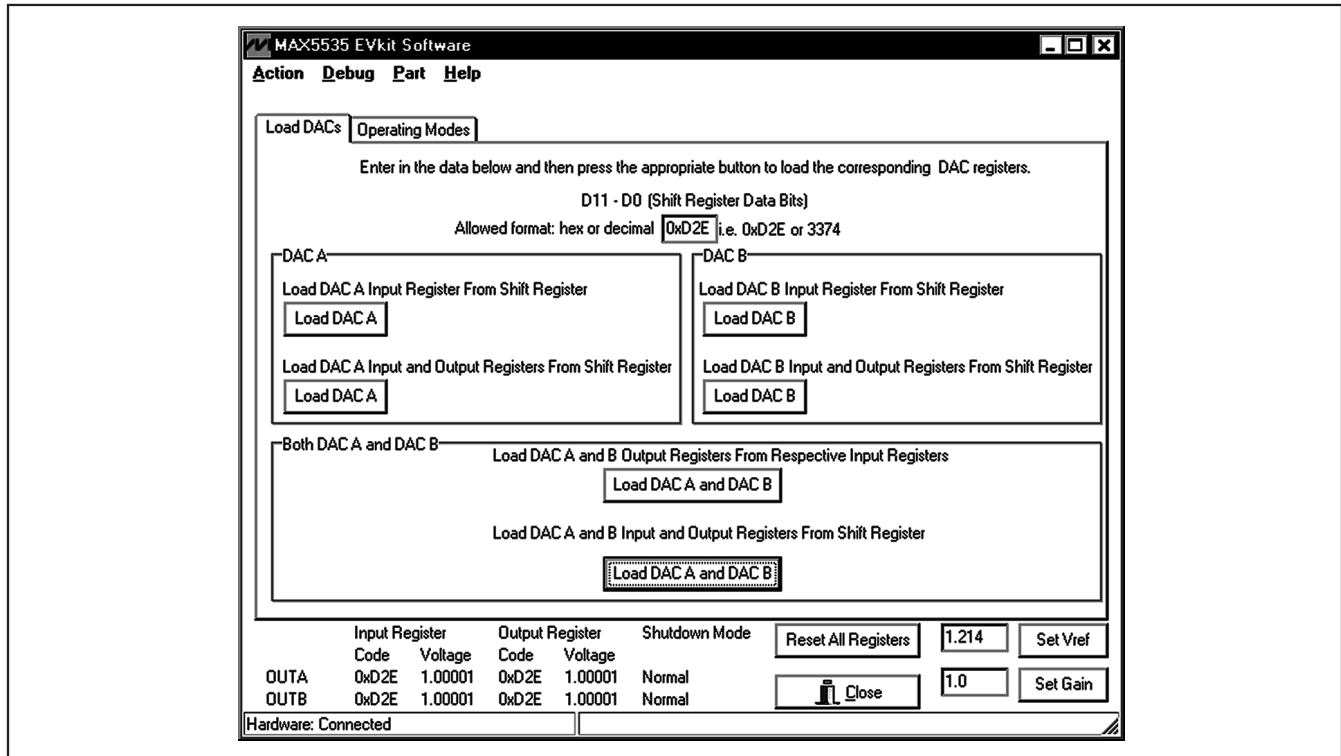
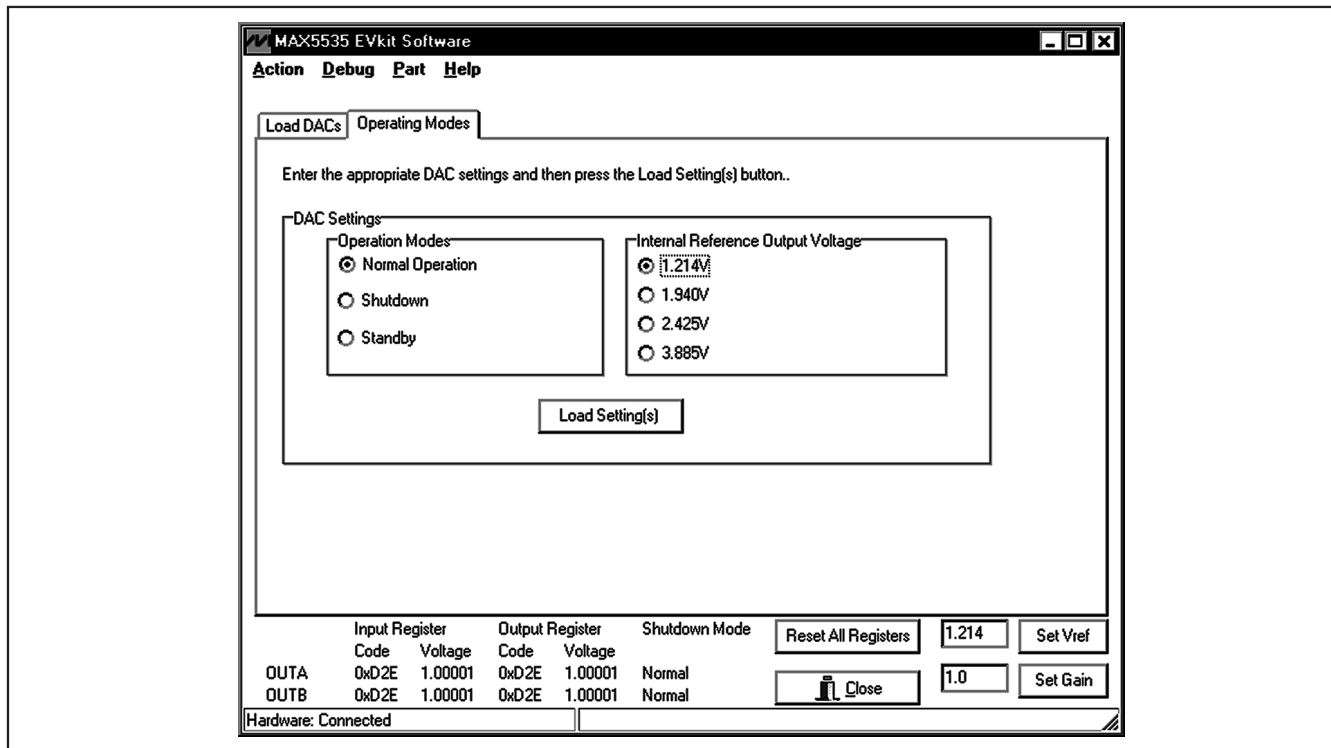

Figure 1. MAX5535 EV Kit Software Main Window (Load DACs Tab)
Figure 2. MAX5535 EV Kit Software Main Window (Operating Modes)
- 8) Start the MAX5535 EV kit software by opening its icon in the **Start | Programs** menu. The EV kit software main window should appear, as shown in Figure 1.
The main window of the evaluation software (shown in Figure 1) displays the voltage and code for all DAC input and output registers. In addition, the main window has two tabs. The **Load DACs** tab sheet controls all the DAC loading features of the MAX5535 family. The **Operating Modes** tab sheet (shown in Figure 2) controls all the DAC modes of the MAX5535 family. The **Load Setting(s)** button must be pressed in order to write the operating mode settings to the DAC(s).